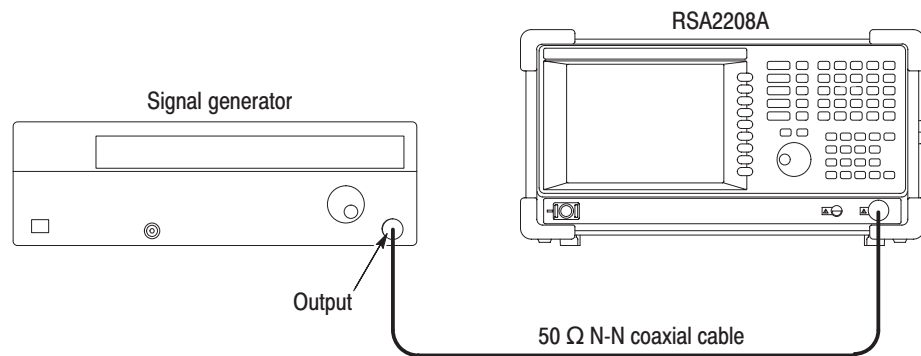

Figure 5–12: Test hookup
- b. *Hook up the signal generator:* Connect the generator output through a 50 Ω N-N coaxial cable to the analyzer **INPUT**. See Figure 5–12.